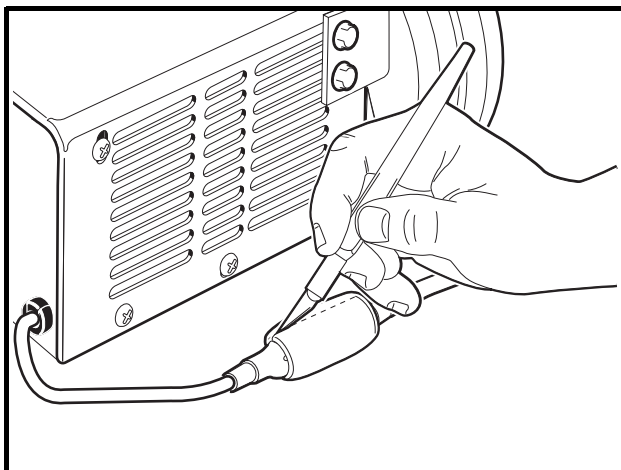

Figure 9-13 Heatshrink Removal
3. Remove the heatshrink from the AC cord connection between the short AC cord and the retractable cord reel by gently cutting the heatshrink tubing (**Figure 9-13, Page 9-18**).